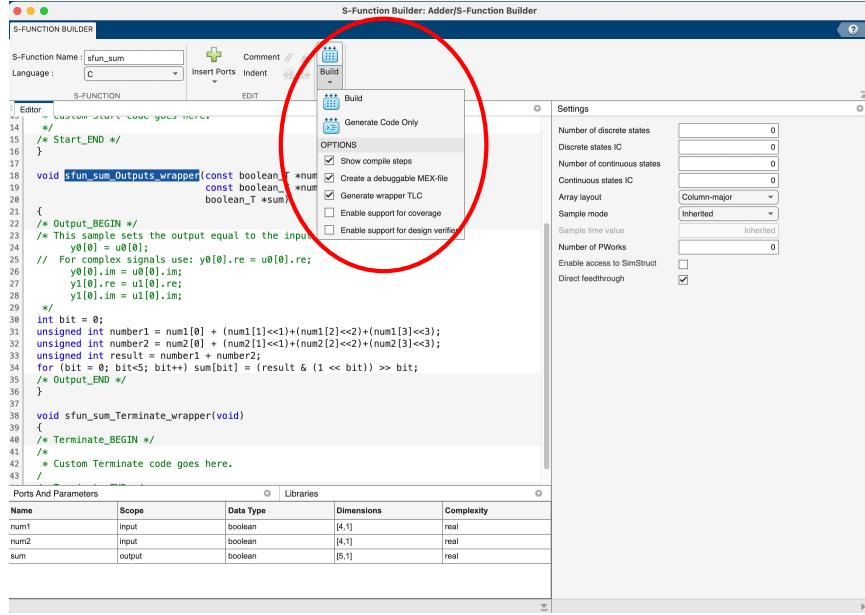

Figure 5: Eight-bit adder code is written in the generated sfun\_sum\_outputs\_wrapper.
8. You are now ready to build your function. In the pull-down build menu in the toolbar, check the boxes Show compile steps, Create a debuggable MEX-file and Generate wrapper TLC. Click Build. See figure 5.